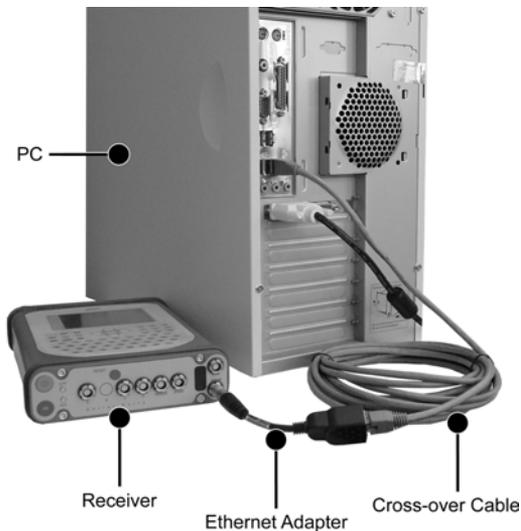

Figure 1-8. Direct Ethernet Connection – Hardware Setup
7. Insert the corresponding end (having seven pins) of the Ethernet adapter into the **ETHR** port of the receiver. Connect the other end of this adapter with the Ethernet crossover cable (either of its ends can be used). Plug the second end of the crossover cable into the Ethernet jack on the computer's back (Figure 1-8).
11. Click **Connect** (see Figure 1-8 on page 1-19). After establishing the connection, you will see the current connection type (Ethr) and the receiver's IP address in the bottom left corner of the PC-CDU's main window (see Figure 1-10 on page 1-21). From this moment on, you may interact with the receiver in a *normal way* (i.e., record files into the receiver's memory and onto the computer's drives, send commands into the receiver, and so on) plus some network abilities (i.e., transfer files from the receiver over a TCP/IP network using FTP, connect up to 5 remote terminals to the receiver).